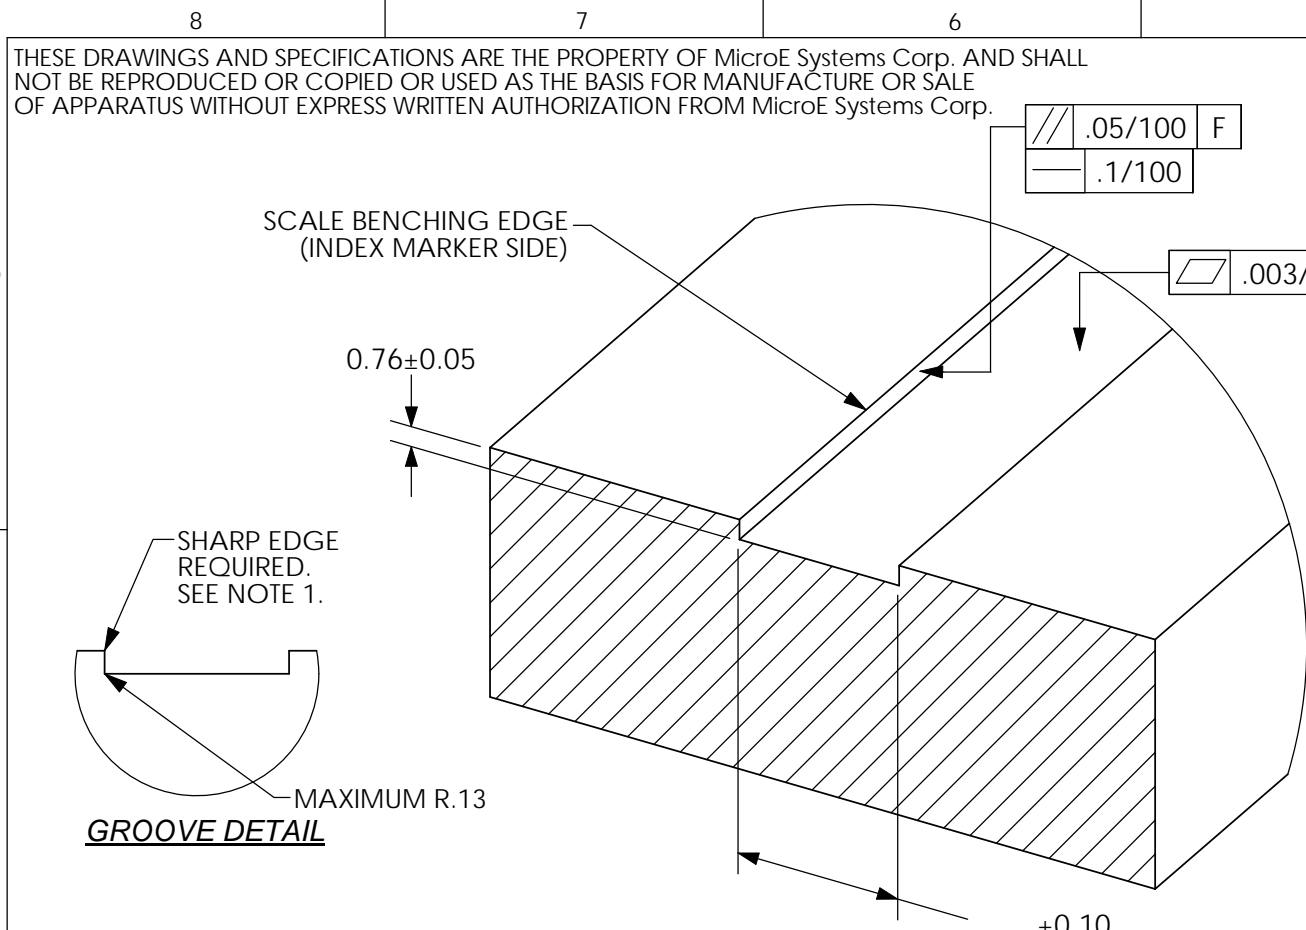
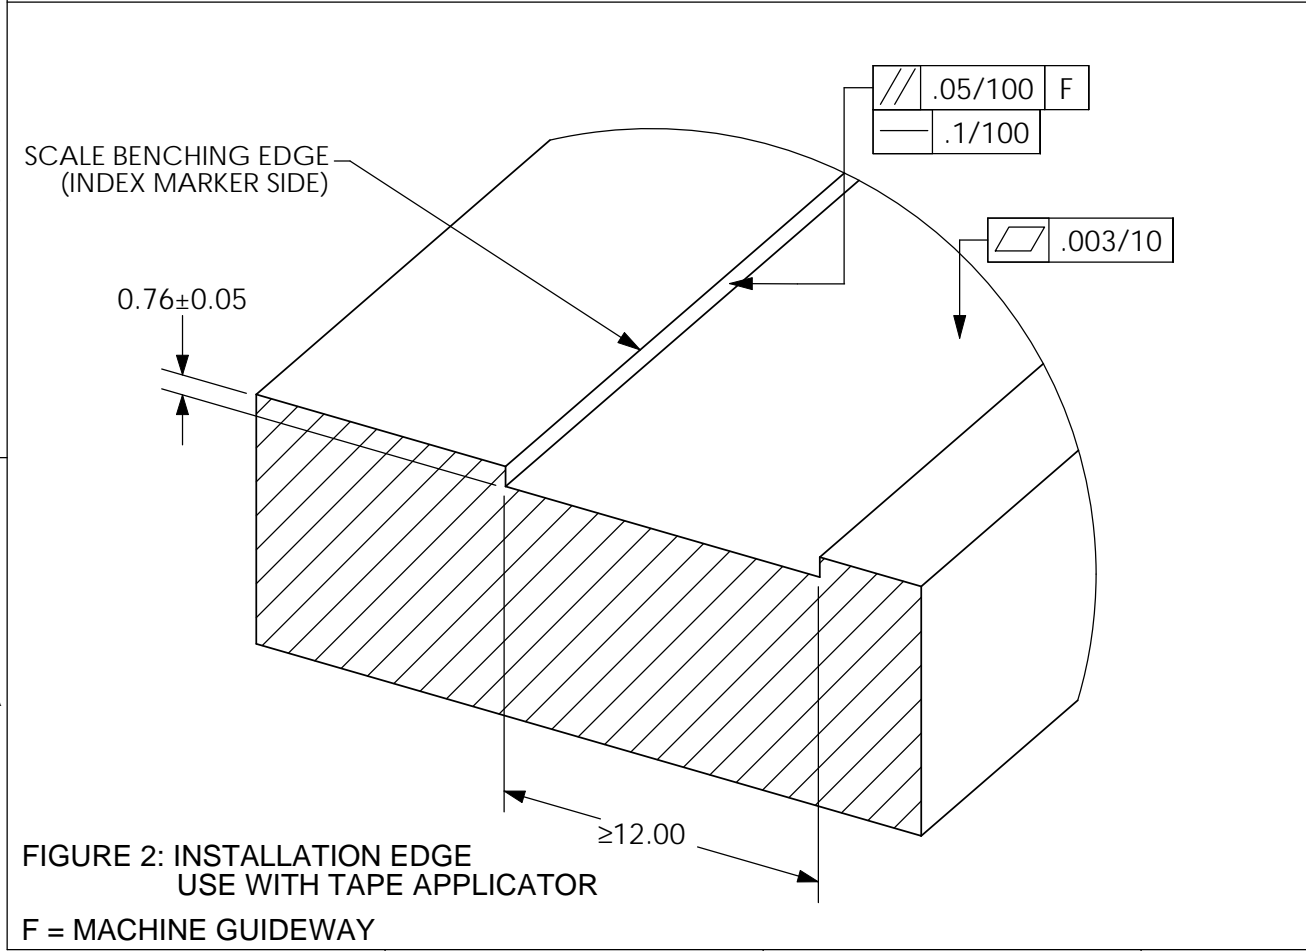
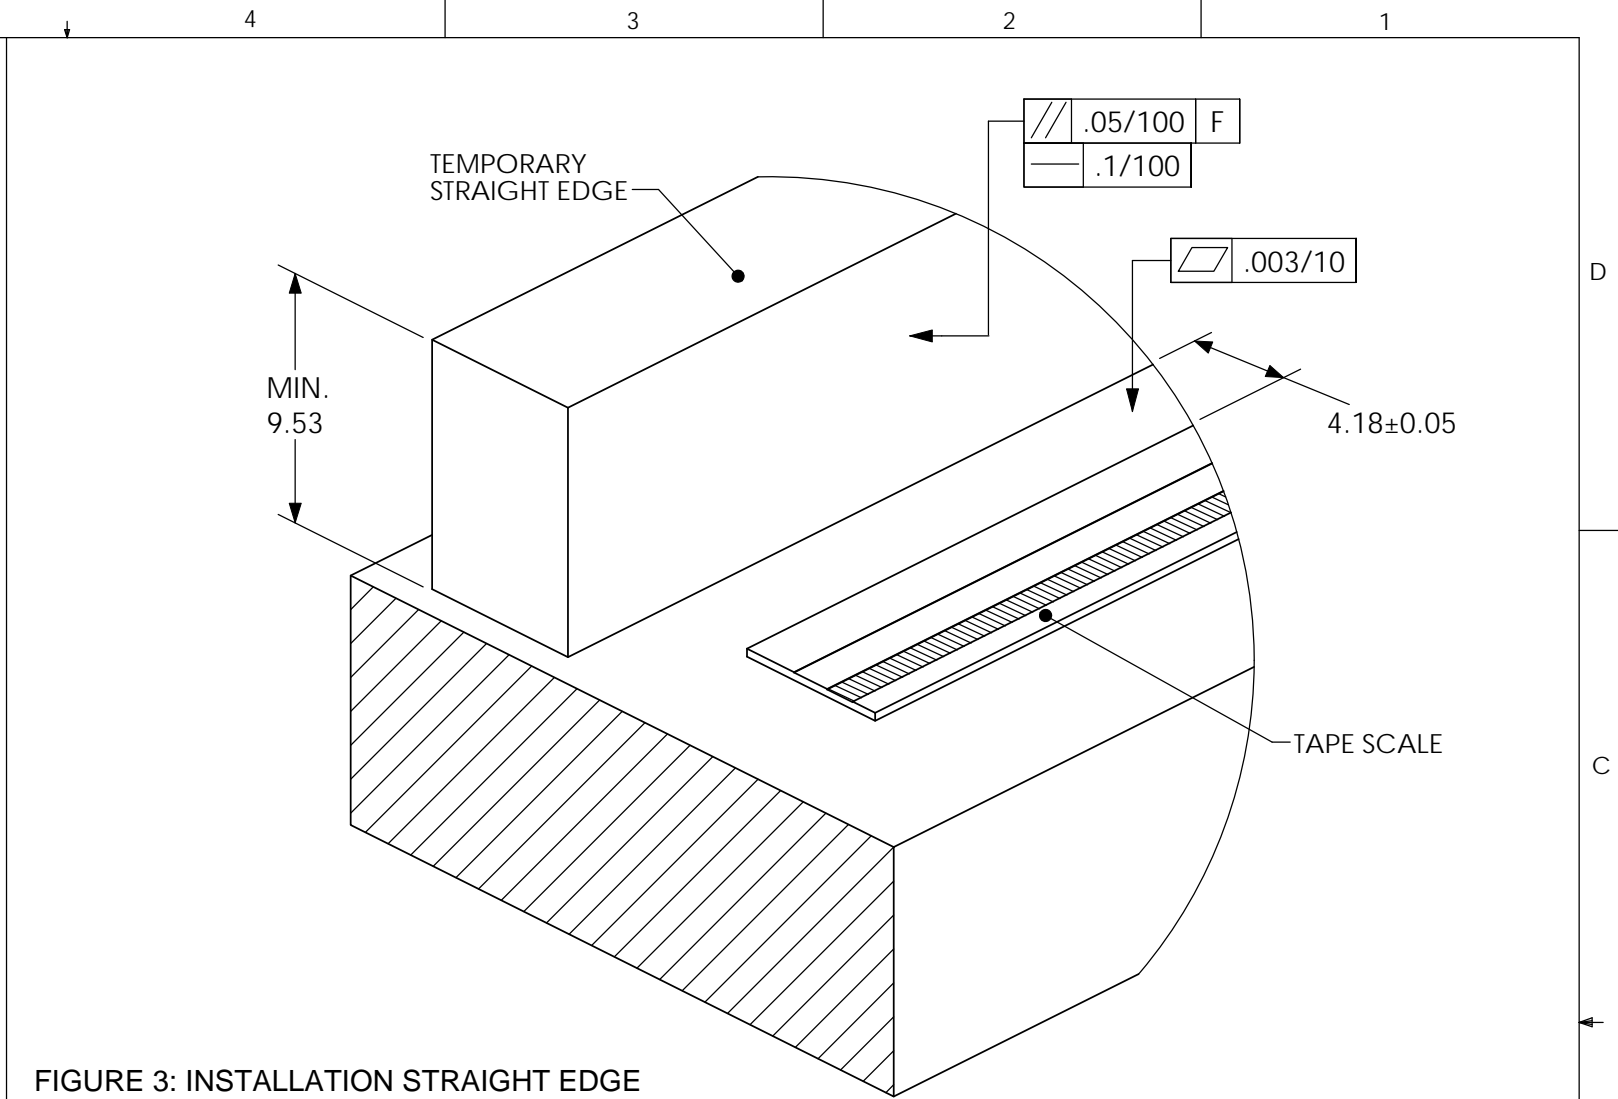

FIGURE 1: INSTALLATION GROOVE
FIGURE 2: INSTALLATION EDGE
FIGURE 3: INSTALLATION STRAIGHT EDGE
3. THE INSTALLATION METHOD SHOWN IN FIGURE 1 SHOULD INVOLVE HAND INSTALLATIONS ONLY. THE APPLICATOR TOOL IS NOT COMPATIBLE WITH THIS METHOD. IN ADDITION END CAPS CANNOT BE USED WITH THIS METHOD.
4. FOR APPLICATIONS WHERE MACHINING THE MOUNTING SURFACE IS NOT DESIRED, A TEMPORARY STRAIGHTEDGE CAN BE USED. A STAINLESS STEEL RULE MAY BE USED AS IN FIGURE 2 IF THE RULE MEETS THE THICKNESS REQUIREMENT. OTHERWISE, THE TEMPORARY STRAIGHTEDGE MAY BE USED AS SHOWN IN FIGURE 3.
5. IN FIGURE 3, THE OUTSIDE REFERENCE SURFACE OF THE TOOL SLIDES AGAINST THE TEMPORARY STRAIGHT EDGE, AND THE TAPE SCALE IS THEREFORE OFFSET FROM THE EDGE AS SHOWN. IF THIS OFFSET IS TOO SMALL FOR THE APPLICATION, THE CUSTOMER MAY DESIRE TO CREATE A SPACER THAT CAN ATTACH TO THE OUTSIDE SURFACE OF THE TOOL. PLEASE SEE INSTRUCTION MANUAL FOR DETAILS.
6. IN FIGURES 1 AND 2, THE SCALE BENCHING EDGE IS INTENDED TO AID THE INSTALLATION OF INDEX MARKERS. FOR APPLICATIONS SUCH AS IN FIGURE 3, THE CUSTOMER MAY USE A TEMPORARY BENCHING SURFACE TO INSURE THE PROPER INSTALLATION OF THE INDEX MARKERS. PLEASE SEE INSTRUCTION MANUAL FOR DETAILS. THE EDGE OF THE GROOVE OR STRAIGHTEDGE MUST BE SHARP ON BENCHING SIDE IN ORDER FOR APPLICATOR TO USE AS A GUIDE. IN ORDER FOR THE TAPE SCALE TO MOUNT CLOSE TO THIS EDGE, A MAXIMUM RADIUS OF .13 SHOULD BE USED WHERE THE EDGE MEETS THE BOTTOM OF THE MOUNTING SURFACE.